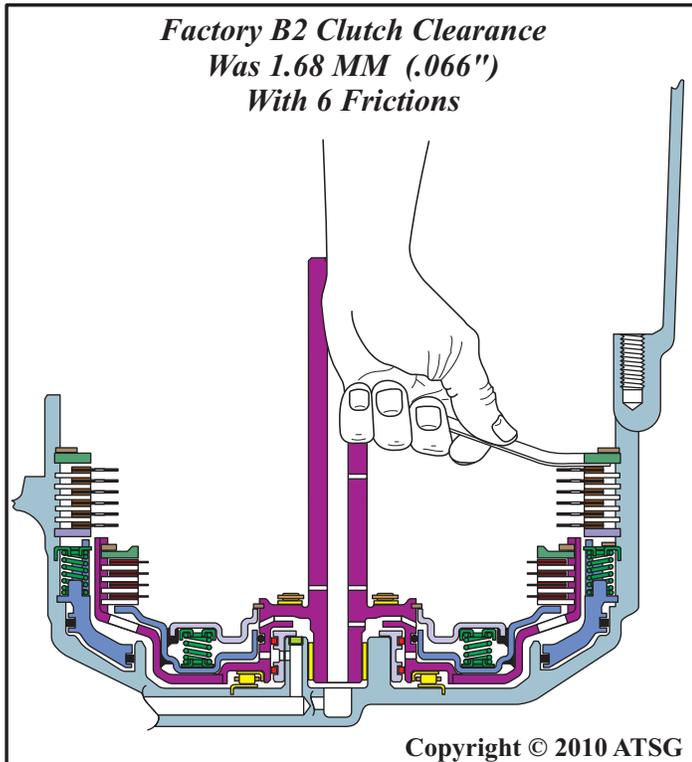

Figure 170
8. Measure the B2 clutch clearance with a feeler gauge between the backing plate and friction plate, as shown in Figure 170.
Note: There are no factory clutch clearance specifications available, but the clearances were the "traditional" .010" per friction plate through-out this unit. Refer to Figure 170 for B2 clutch clearance with 6 frictions.